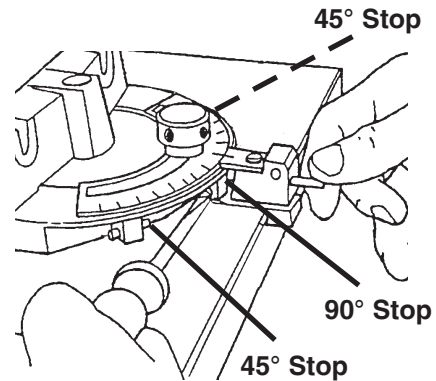

Figure 61
1. Use a Small Screwdriver to back out the 90° Stop Screw 2 to 3 turns, as shown in Figure 61.